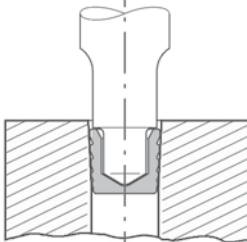

Fig. 2
- / The LP-plug can now be pressed in with the setting tool. Corresponding approximate values for stroke  $S$  are from the table below (Fig. 2).